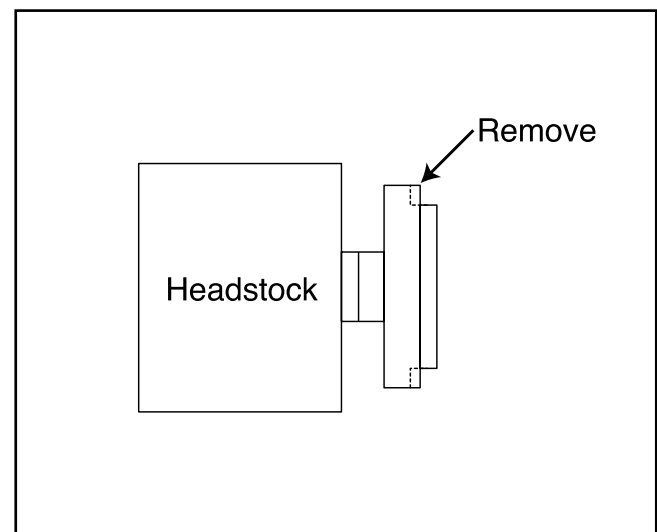

Figure 28. Turning new shoulder on back plate.
9. Remove approximately one half of the thickness of the shoulder (approximately $\frac{1}{16}$ "). Remove the same thickness off the face of the mounting surface. **Figure 28.**